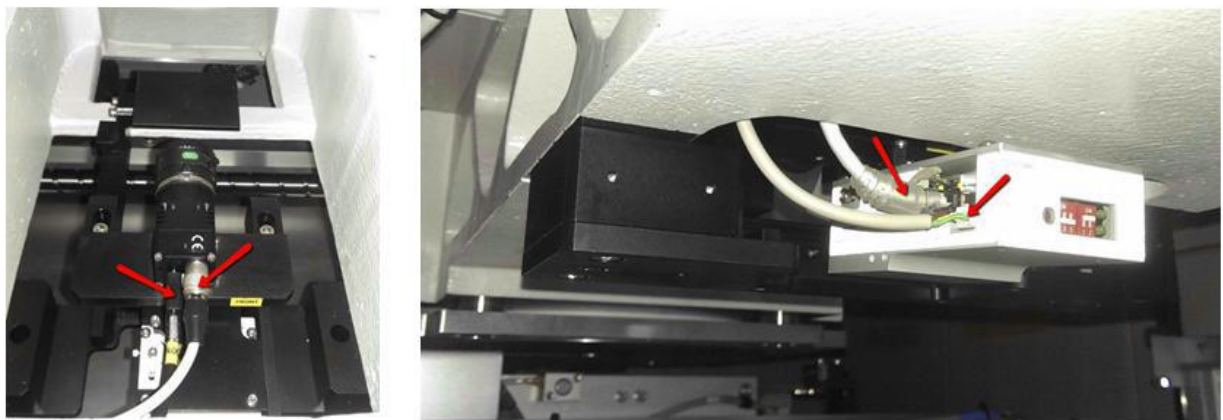

Figure 2 Cable Disconnect
3. Disconnect the cables as illustrated at below Figure 2.